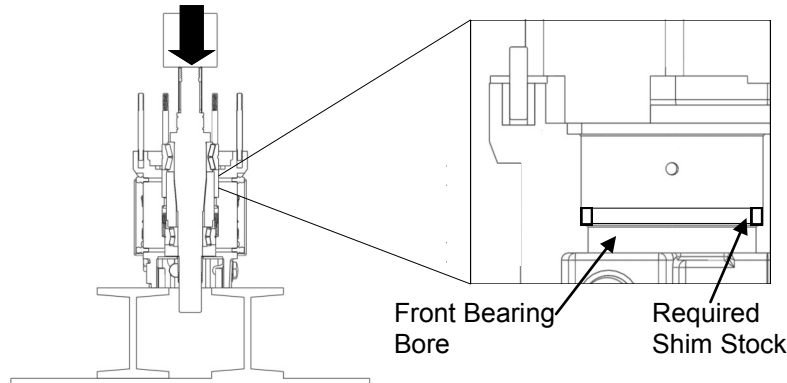

Figure 46: Pressing Shafts into Gear Case
4) Set the gear case on a press with the fluid end side facing up. Place the required thickness of shim stock so it sits on the shoulder of the front shaft bore of gear case. Apply lubricant to the outside of the bearings. Place shaft assembly (one shaft at a time) in the gear case with the spline end facing up. Making sure that the drive and the short shafts are in the correct bores, press the shafts into gear case until bearings are fully seated (Figure 46). See Table 4 on page 22 for the required force.